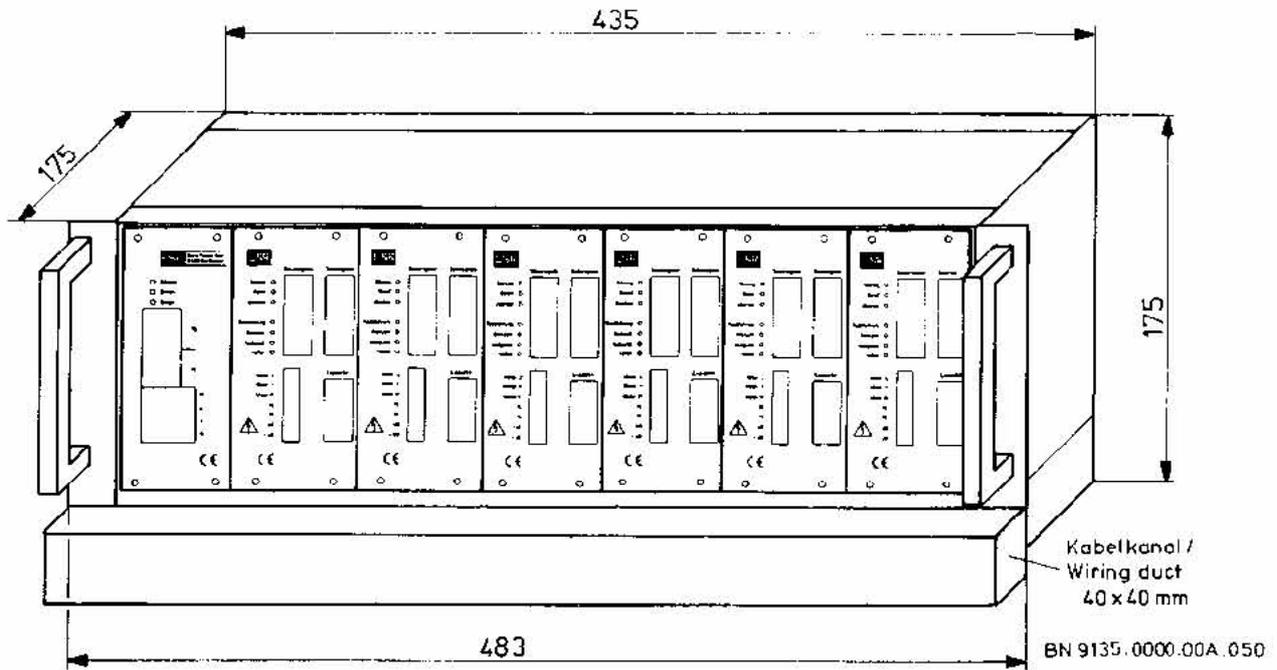

Figure 1: Multi-axis servo amplifier for installation in 19" racks; 84 units wide, 4 height units high including fan unit, dimensions (mm)
- 19" chassis with fan, 4 height units high, or without fan, 3 height units high, for installation in 19" racks or for mounting on the control cabinet mounting plate, 84 units wide for up to 6 amplifier plug-in modules and 1 power supply, or 54 units wide for up to 3 amplifier plug-in modules and 1 power supply (other types on request). Mounting dimensions of the 84 units wide version see fig. 1 and fig. 2.